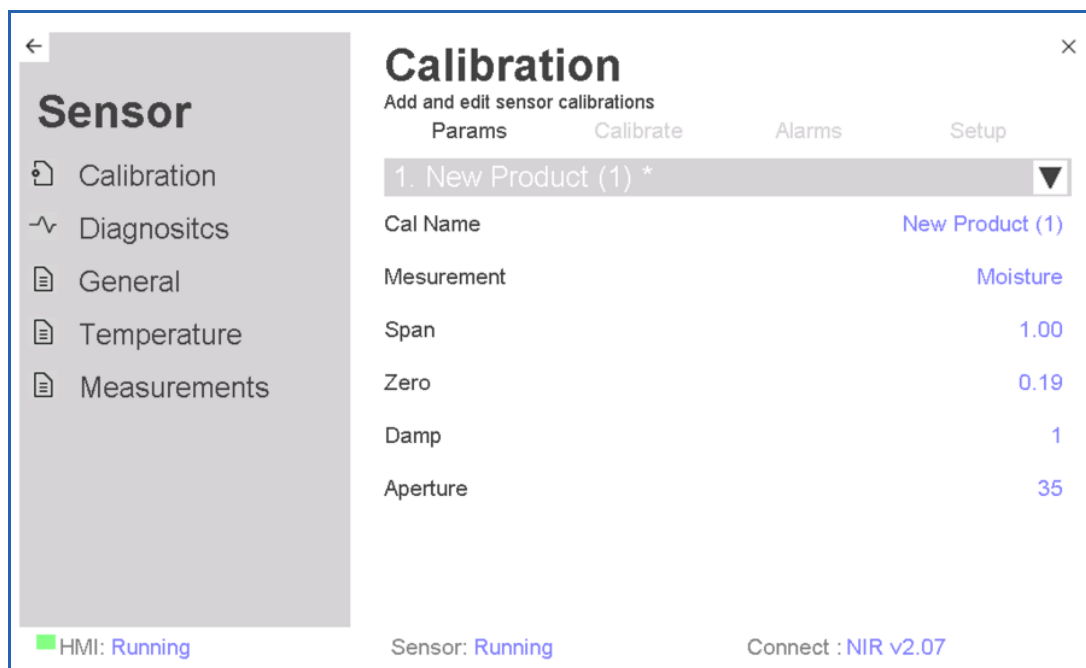

Figure 1 — Calibration Params Tab, showing the current Span and Zero
2. Under Current Calibration, enter the sensor's existing Span and Zero values as the starting point. These can be read from the HMI Params tab (see Figure 1).